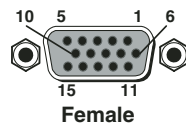

Figure 4. 15-pin HD Connector
- ① **Power connector** — Plug the included external 12 VDC power supply into this 2-pole captive screw connector. See "**Power Supply Wiring**" on page 12 to wire the connector.
- ② **Input video connector** — Connect a computer video source to this 15-pin HD connector for high resolution video input (see figure 4).